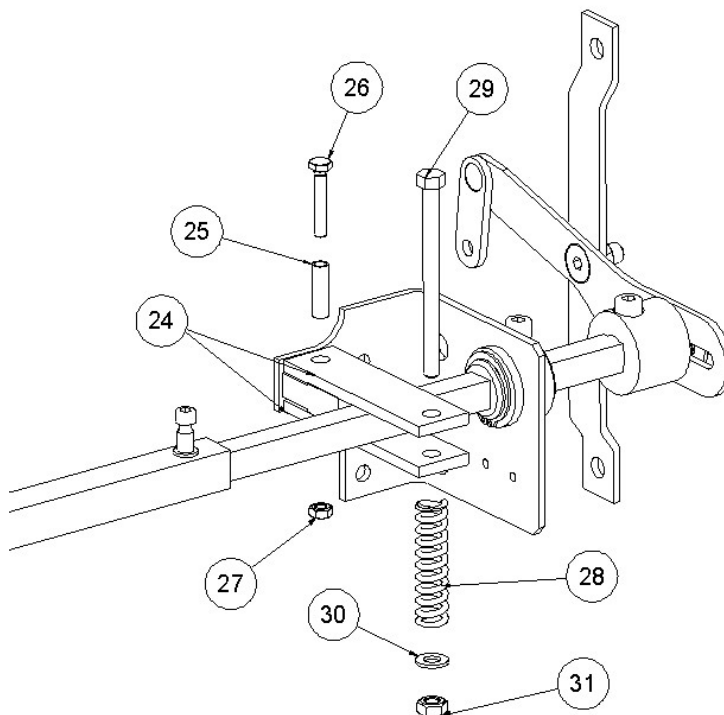

Figure. 7
8. TENSOR GROUP ASSEMBLY: The two axle supports (**24**) must be aligned with the tensing support (one in upper part and other in lower part), then insert the tensing tip (**25**) and fix this group with the M6 X 35 DIN 933 screw (**26**) and M6 DIN 985 Autoblock nut (**27**). Next, the M8 X 100 DIN 931 screw (**29**) must be introduced in the free drill holes placed at the axle supports and through the spring (**28**), as can be seen in the figure. Finally the group is fixed by a M8 DIN 125 washer (**30**) and a M8 DIN 985 Autoblock nut (**31**) -Fig.7-.